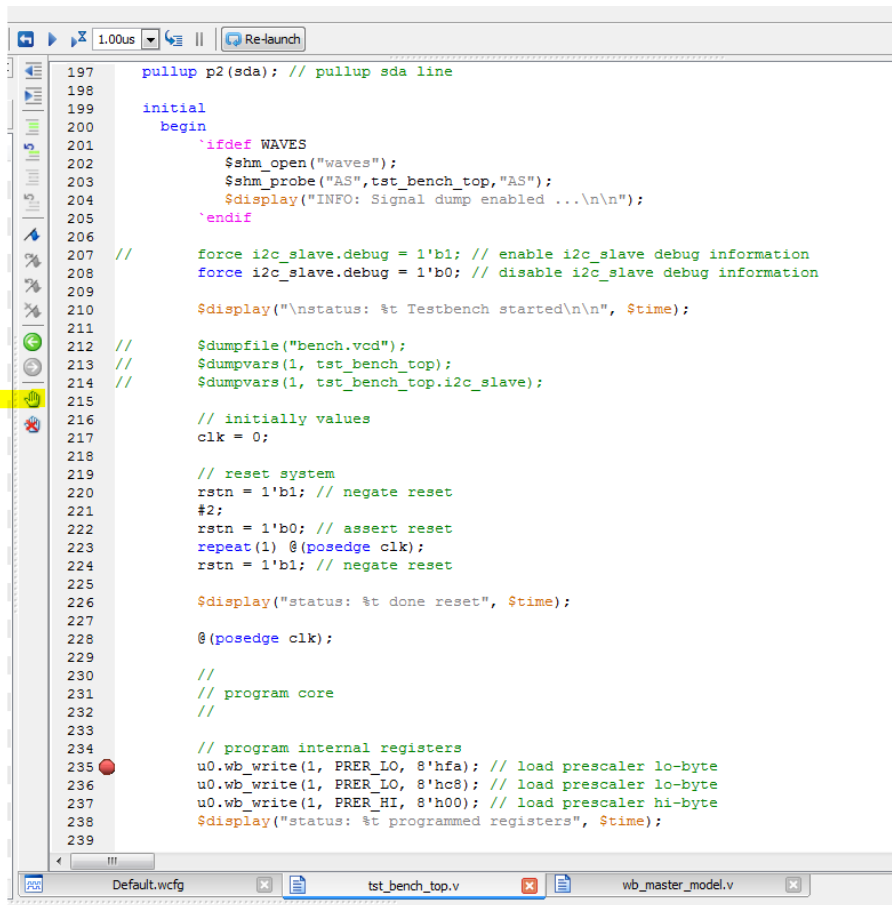

Figure 4-18 Setting a breakpoint in iSim
- Click the `tst_bench_top` tab in your iSim Viewer window and drop a breakpoint at line 235. A breakpoint is added by clicking the line where you want the breakpoint to be located and then clicking Toggle Breakpoint, as seen in Figure 4-18.